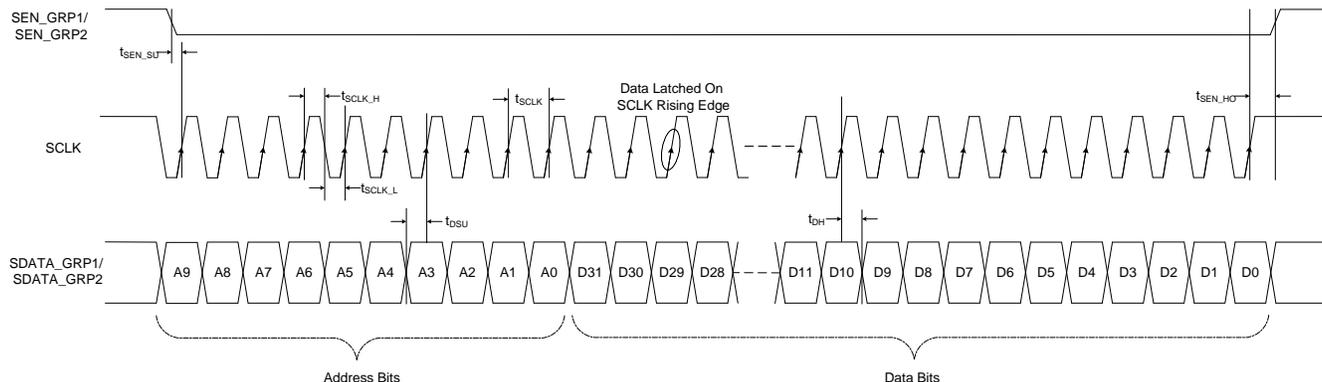
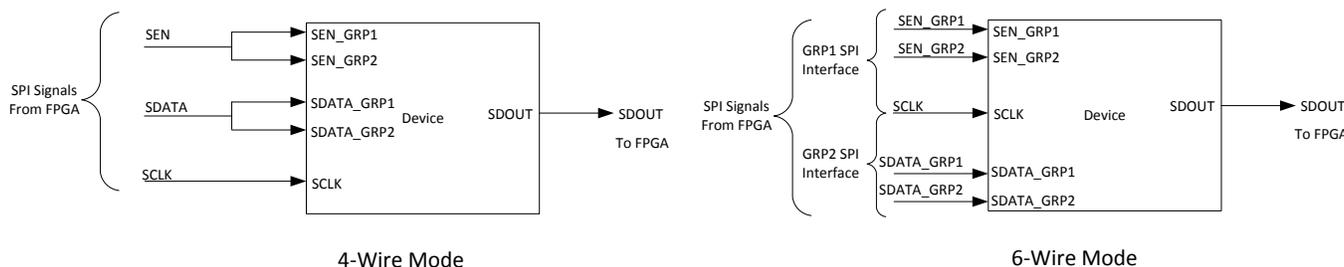

Figure 63. Serial Interface Timing
Figure 64. 4-Wire and 6-Wire Write Mode
Several different modes in the device can be programmed with the serial peripheral interface (SPI). This interface is formed by the SEN_GRP1, SEN_GRP2 (serial interface enable), SCLK (serial interface clock), SDATA_GRP1, and SDATA_GRP2 (serial interface data) pins. Serially incoming bits on pin SDATA_GRP1 are latched by the device on every SCLK rising edge when SEN_GRP1 is low. Similarly serially incoming bits on pin SDATA_GRP2 are latched by the device on every SCLK rising edge when SEN_GRP2 is low. SDATA_GRP1/SDATA_GRP2 serial data are loaded into the register for total 42 SCLK rising edge when SEN_GRP1/SEN_GRP2 is low. If the word length exceeds a multiple of 42 bits, the excess bits are ignored. Data can be loaded in multiples of 42-bit words within a single active SEN_GRP1/SEN_GRP2 pulse (an internal counter counts the number of 42 clock groups after the SEN_GRP1/SEN_GRP2 falling edge). Data are divided into two main portions: the register address (10 bits) and data (32 bits). Figure 63 shows the timing diagram for serial interface write operation.
1. 4-Wire write mode: This mode writes to and reads from the device by communicating simultaneously between the two dies (Die 1 and Die 2). In this mode SDATA_GRP1, SDATA_GRP2 pins are shorted and similarly SEN_GRP1, SEN_GRP2 pins are shorted together. So from the FPGA side it requires only 4 signals (SEN, SCLK, SDATA and SDOUT) to perform SPI write and read operation; see Figure 64. All the register of the device can be programmed using these three FPGA lines.
2. 6-Wire write mode: This mode of operation requires total 6 signals (SEN_GRP1, SEN_GRP2, SDATA_GRP1, SDATA_GRP2, SCLK and SDOUT) to perform SPI write and read operations; see Figure 64. These six signals provide two SPI interfaces. Signals SEN_GRP1, SDATA_GRP1, SCLK and SDOUT forms the first SPI interface referred as GRP1 interface (communicating with Die 1) and signals SEN_GRP2, SDATA_GRP2, SCLK and SDOUT forms the second SPI interface referred as GRP2 interface (communicating with Die 2). The motivation for using a 6-wire write mode is that it allows altering the delay profile of the channels on-the-fly in a quicker manner. Having two SPI interfaces allows a user to configure the delay register maps of Die 1 and Die 2 in parallel with lesser programming time. Table 23 lists the registers which are configured using the two interfaces. Timing diagram Figure 63 is applicable for both the GRP1 and GRP2 interface.
1. 4-Wire mode: All the registers of the device can be read out in readout mode except of register address 0, using FPGA lines SCLK, SDATA, SEN and SDOUT signals; see Figure 64. Register 0 always remains in write mode and can't be read back. Complete read out operation of any register address involves below steps:
2. 6-Wire mode: All the registers of the device can be read out in readout mode except of register address 0, using GRP1 interface (Consist of SCLK, SDATA_GRP1, SEN_GRP1 and SDOUT) and GRP2 interface (Consist of SCLK, SDATA_GRP2, SEN_GRP2 and SDOUT) signals; see Figure 64. Register 0 always remain in write mode and can't be read back. Complete read out operation of any register address involves below steps: